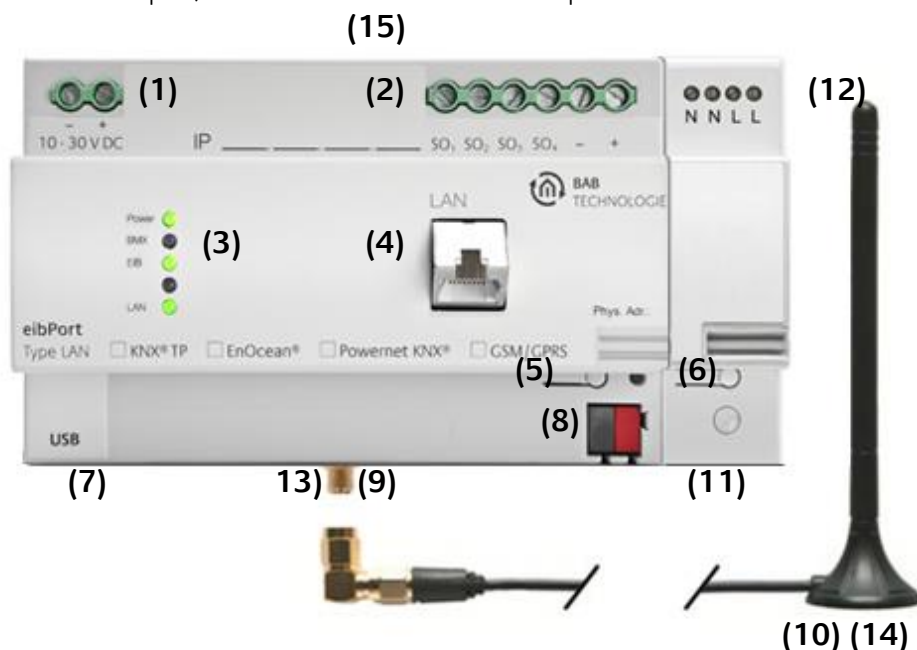

Figure 2: Device Overview
When establishing the power supply, please make sure that sufficient power is available. The EIBPORT requires 300 mA at 12 V during the boot process. Connect the power supply unit according to the marking on the screw-type terminals (**figure 2 (1)**).
For programming the EIBPORT it is necessary to access via LAN. This can be done both using an existing LAN network or via direct connection. Plug in the network cable (LAN) into the RJ 45- connector (**Figure 2(4)**).
- Connect the bus wire with the bus clamp (**figure 2, (8)**)
- Connect the Powernet KNX net coupler with the electric power wire (**figure 2, (11)**)
- Screw the SMA plug on the SMA connector to tighten it (**figure 2, (9,10)**).